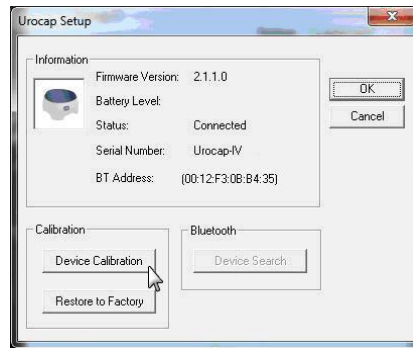

Figure 106: Urocap Setup – Device Calibration
3. Click the **Setup** button in the *Urocap* section to launch the *Urocap™ Setup* window. Click the **Device Calibration** button (Figure 106).